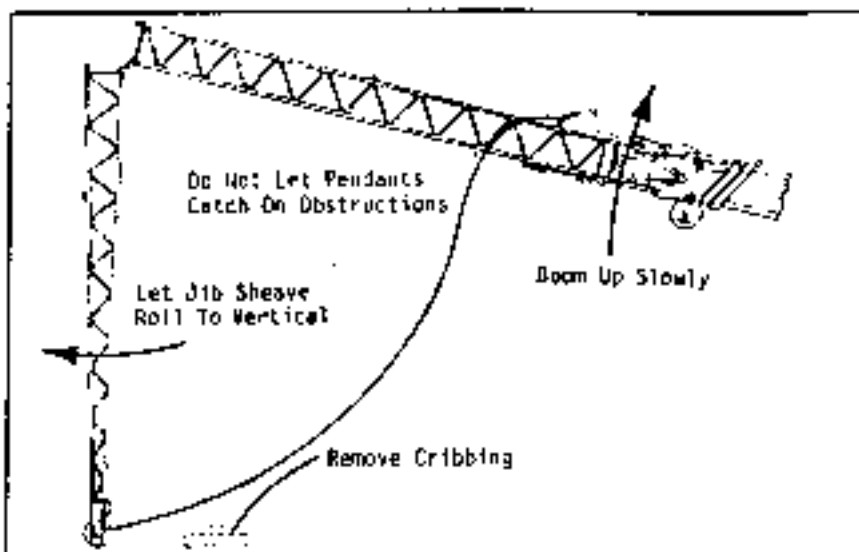

Fig. 4-22 Letting Jib Peak Hang Vertical
Step 9: Boom up slowly allowing the jib peak to gently lower onto ground. Remove the cribbing and continue booming up until the jib top section rolls into vertical position and is suspended above the ground as in Fig. 4-22.